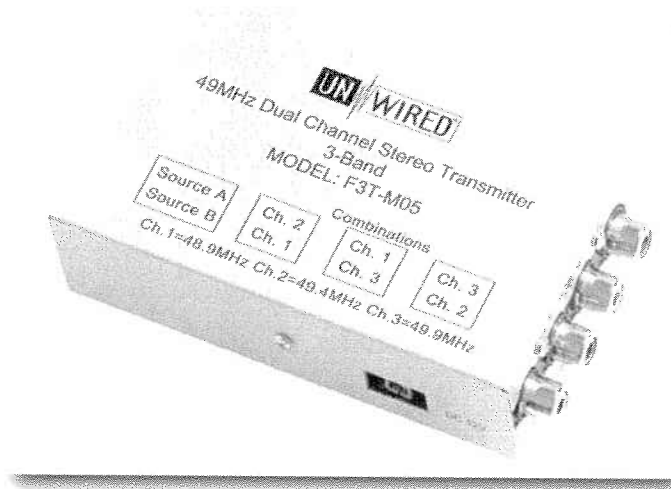

FIGURE 23-2: The F3T-M05 stereo three-source wireless audio transmitter.
- A wireless audio transmitter and headphone solution (varies, \$200–\$1000+), such as the Unwired Technology F3T-M05 three-source stereo RF audio transmitter (see Figure 23-2) and F0H-11099 three-source headphones (see Figure 23-3).